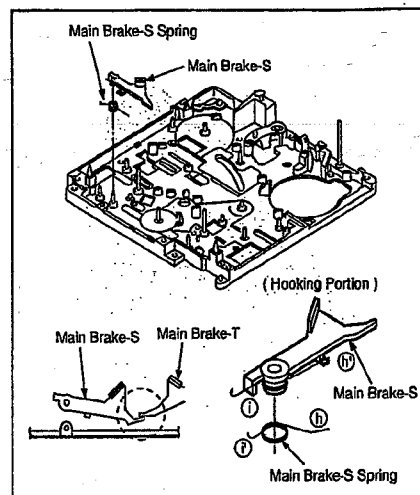

Fig. M18
- Fig. M18 Remove the Main Brake S and Main Brake-S Spring.